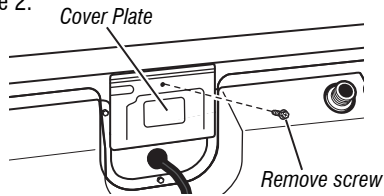

Figure 2 - Remove the cover plate.
2. Remove the cover plate from the top center portion of the back of the dryer. See figure 2.